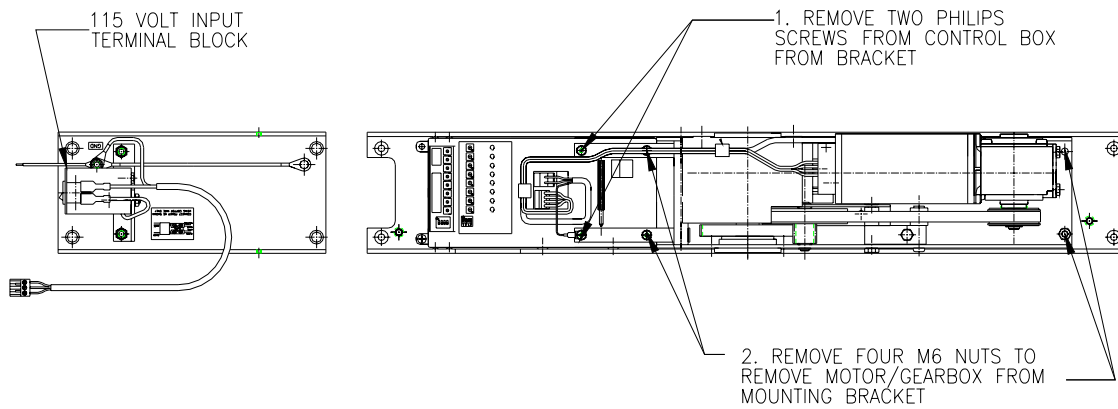

FIGURE 11: MOTOR/GEARBOX & CONTROL BOX REMOVAL
1. Remove the control box and motor/gearbox from the mounting bracket (Figure 11).